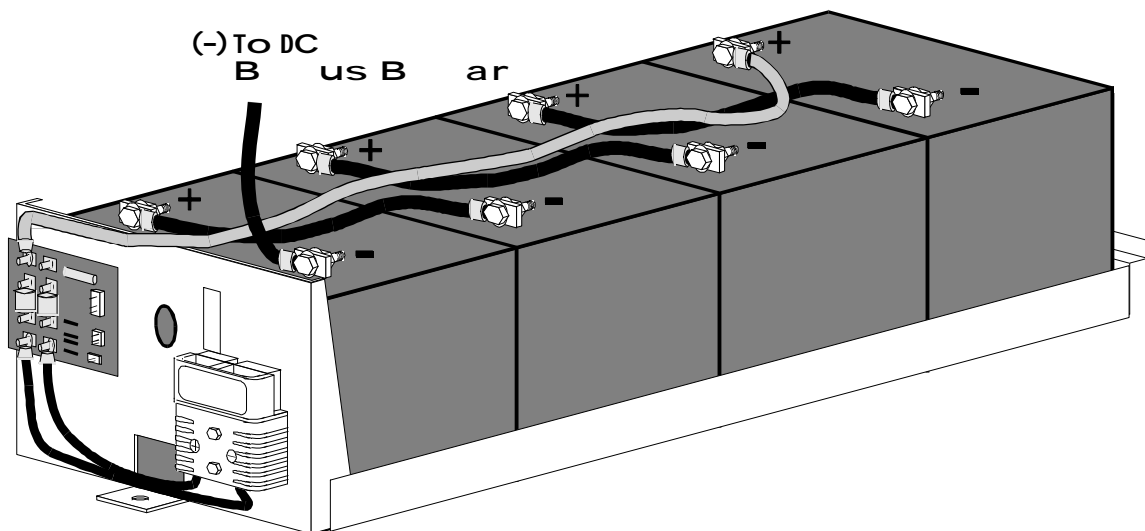

Figure 4: Battery Tray with Batteries
- 300-1. Replace the old batteries with new ones of the **same series and type** and rewire in the same order. See Figure 4.